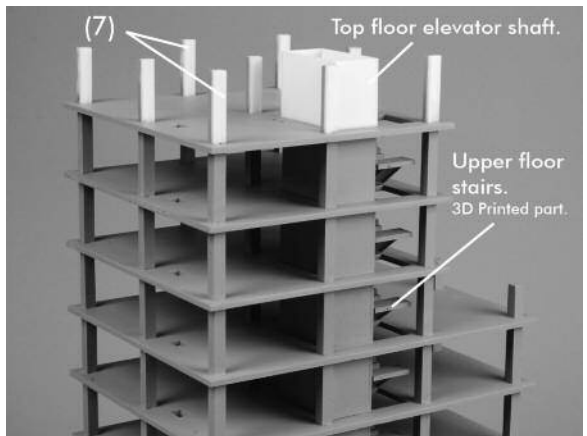

Figure 17
Repeat this process two more times. See Figure 17.
Install parts (7) to the tops of columns. They will stick up beyond the top of the long column slightly and need to be trimmed or filed flush. See Figure 17.